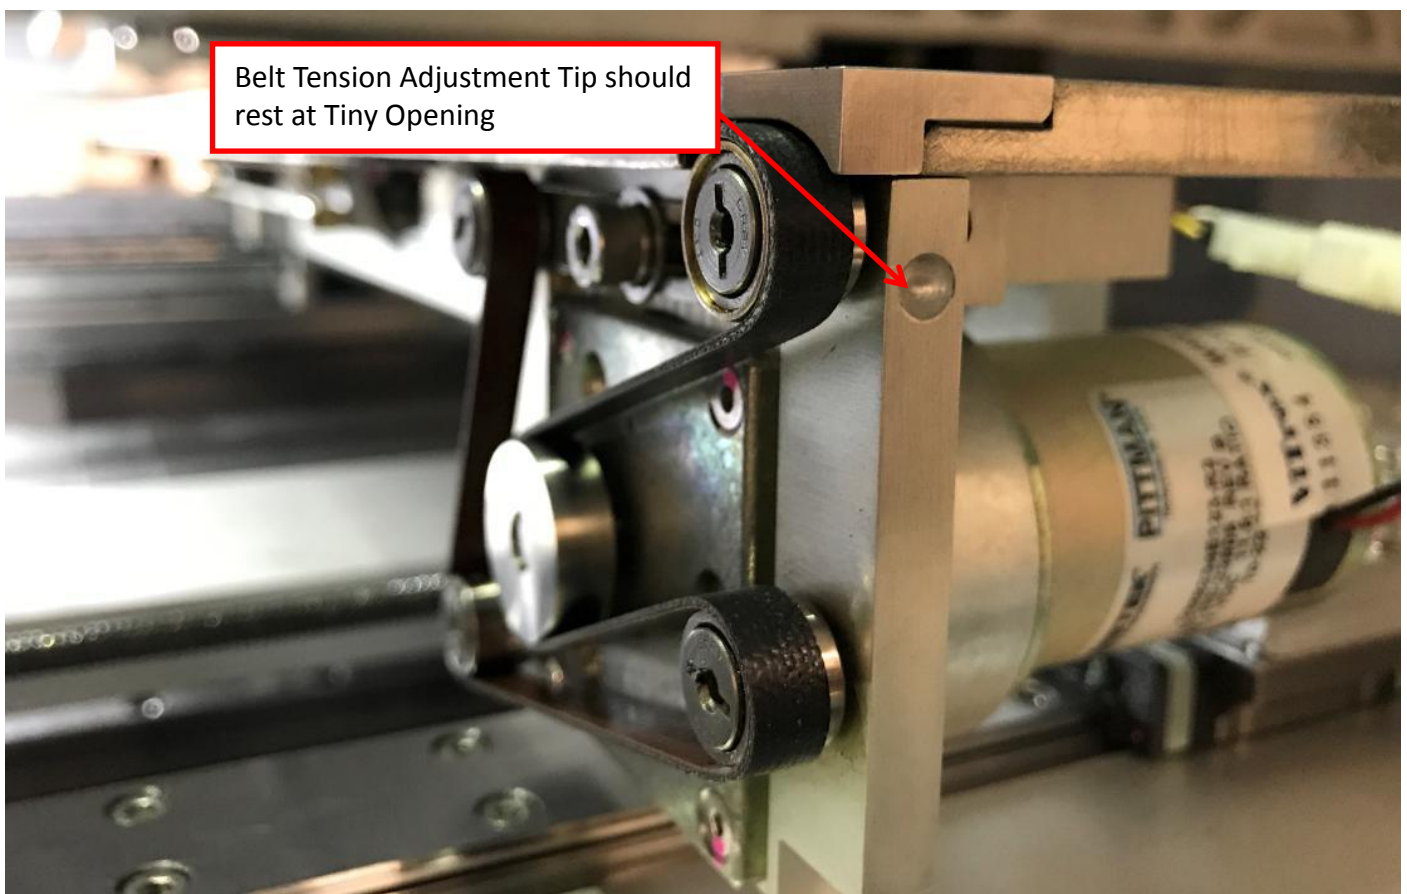
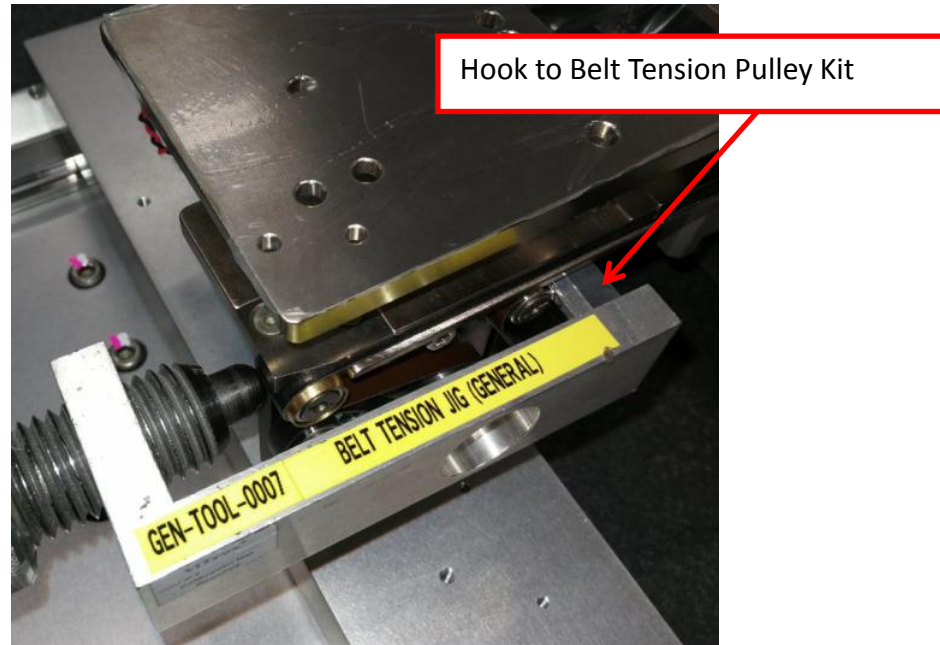

Figure 32 Belt Tension Kit Placement
Figure 33 Belt Tension Kit
5. Gently rest Belt Tension Adjustment Tip on Tiny Opening as below Figure 32 ,while other end will require to hook with the Tension Pulley as Figure 33